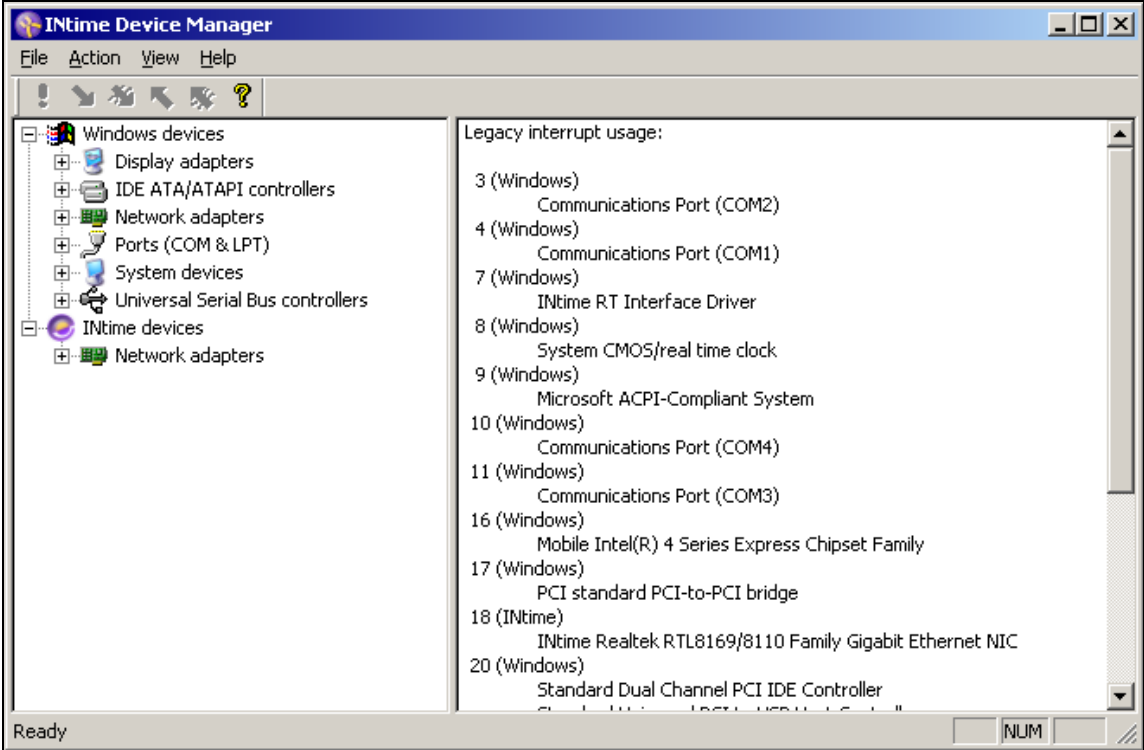

Figure 3.9: INtime Device Manager without any conflict
- The windows should be similar to the Figure 3.9